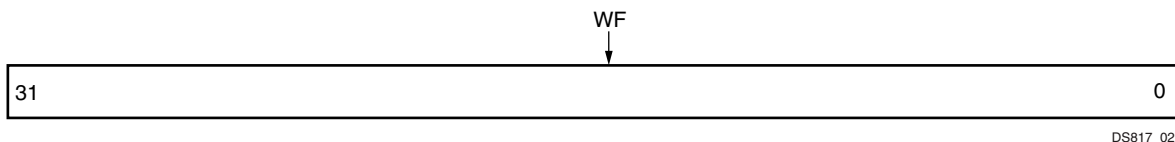

Figure 2-1: Write FIFO (WF)
The Write FIFO (WF) register shown in Figure 2-1 is a 32-bit Write FIFO. The bit definitions for the Write FIFO are shown in Table 2-5.